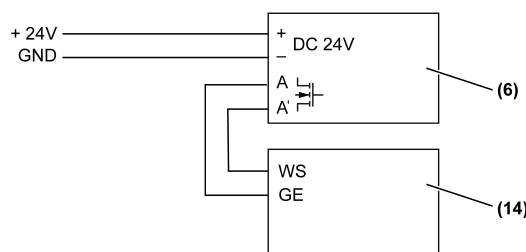

Figure 12: Connection to KNX Push-button universal
| (Figure 12) | (14) KNX Push-button universal, Art. no.: ..109.1ST |